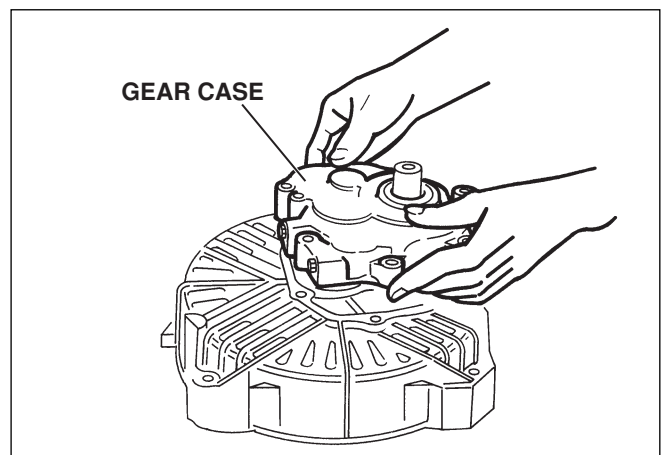

Fig. 10-10
- 9) Cover the gear case. (Don't give physical impacts with such tools as a hammer to compulsorily set it.)(See Fig. 10-10.)